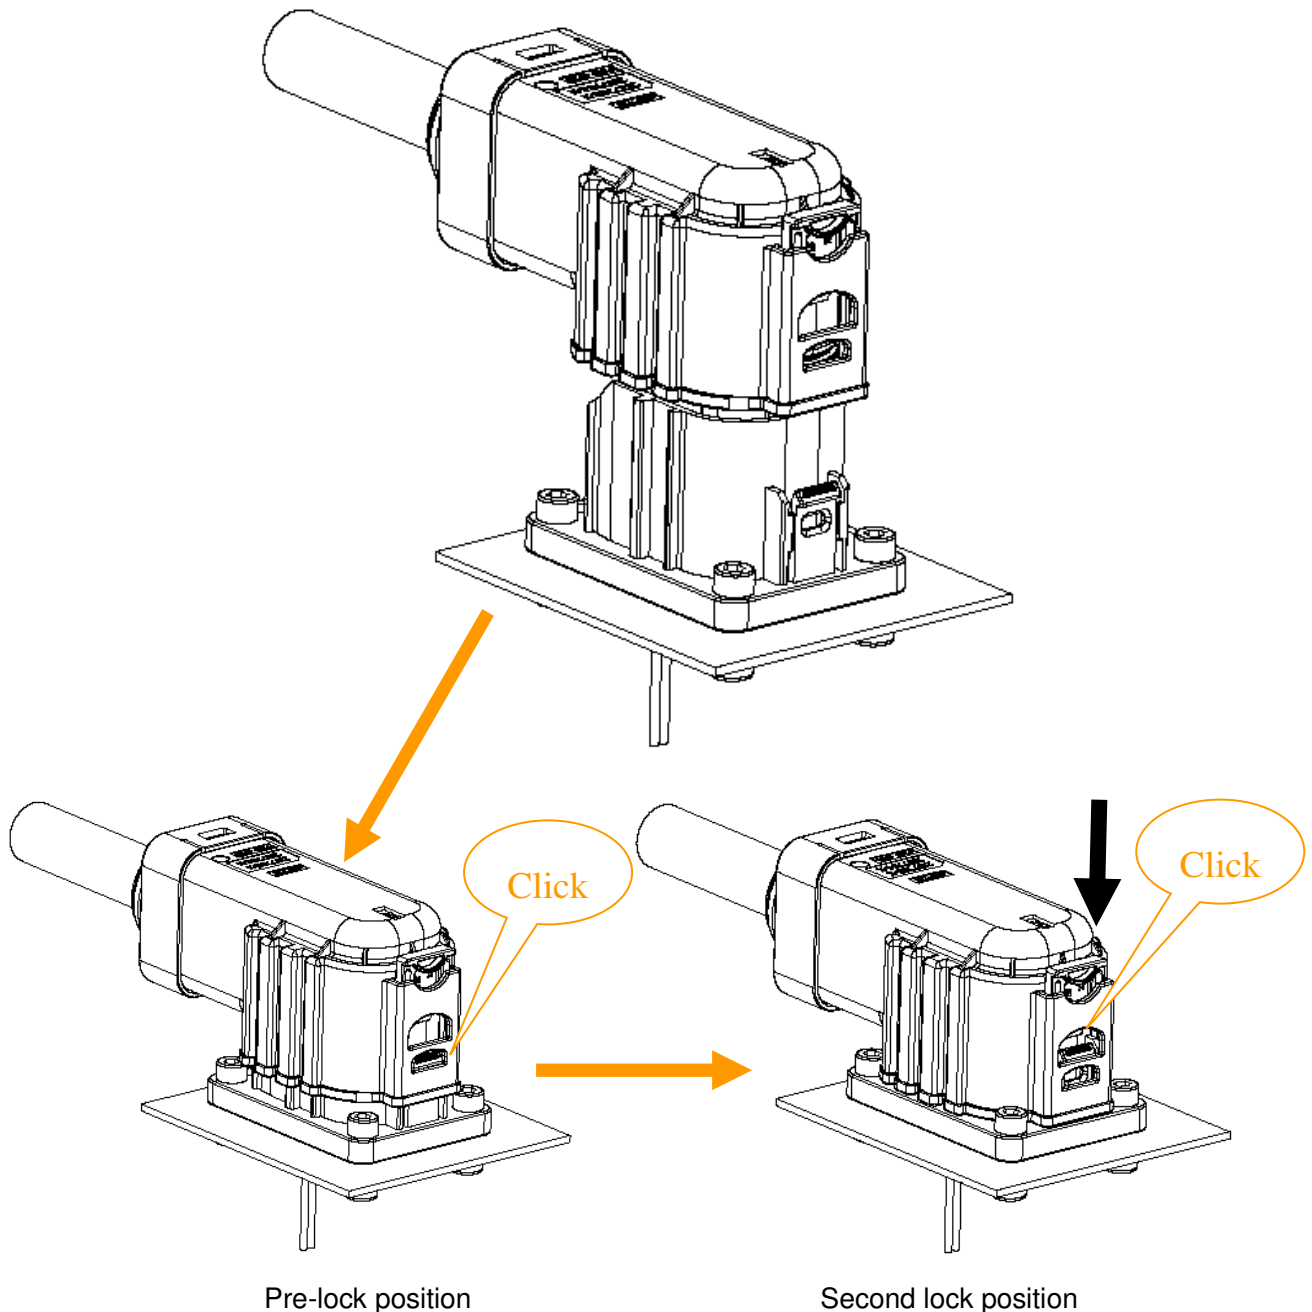

Figure 29
B. Align the plug assembly with header assembly, and push the plug assembly and header assembly together until the main latch engages with two clicks as shown in figure 29. If the connector halves do not fit together easily, check the following: